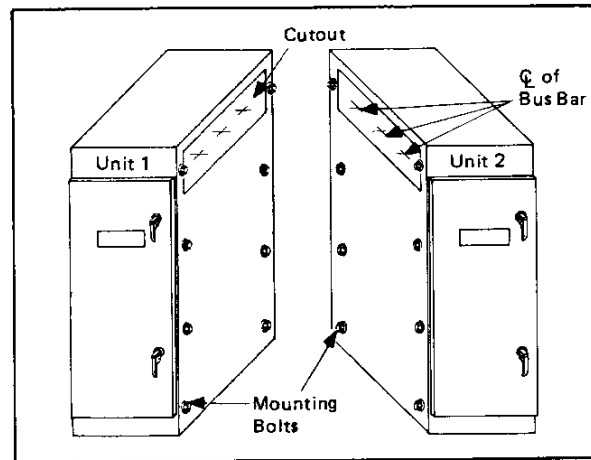

Fig. 2 Joining WLI Enclosures
3.0.2 Procedure for Joining WLI Enclosures at Shipping Splits (Refer to Fig. 2)